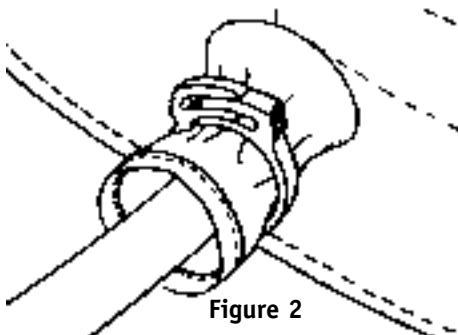

Figure 2
2. Install the small nylon clamp over the air entry sleeve and cooling vest connector hose. Engage the clamp locks and squeeze until tight (Figure 2).